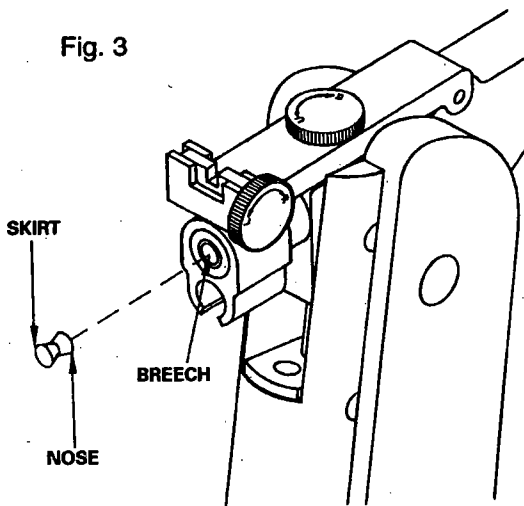

Fig. 3
- With the barrel in the open position, place one .177 caliber pellet, nose forward, into the breech. (Fig. 3). Make sure that the skirt of the pellet is flush with face of breech.